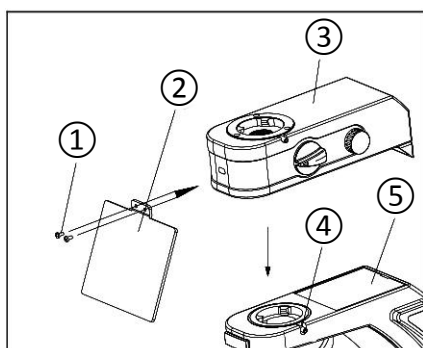

Fig. 22
Match the dovetail on the bottom of the LED fluorescence illuminator ③ to the dovetail on the arm ⑤, and secure it by tightening the lock screw ④. (Fig. 22)